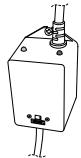

FIGURE 8
20. Once power is activated you can check the ballast (12), Figure 8, to see if the CLEARRAY® unit is functioning; it has two LED indicator lights the green indicating incoming power flow and the red indicating the system is properly working.